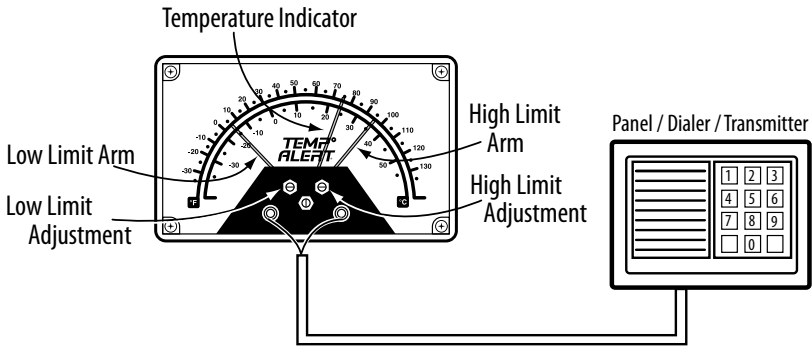

Figure 1
Connect the TA-1 to your warning device by attaching a 22-18 AWG twisted pair cable from (2) front mounted terminals of the TA-1 to an open zone on your alarm panel, telephone dialer, wireless transmitter, etc. See Figure 1.